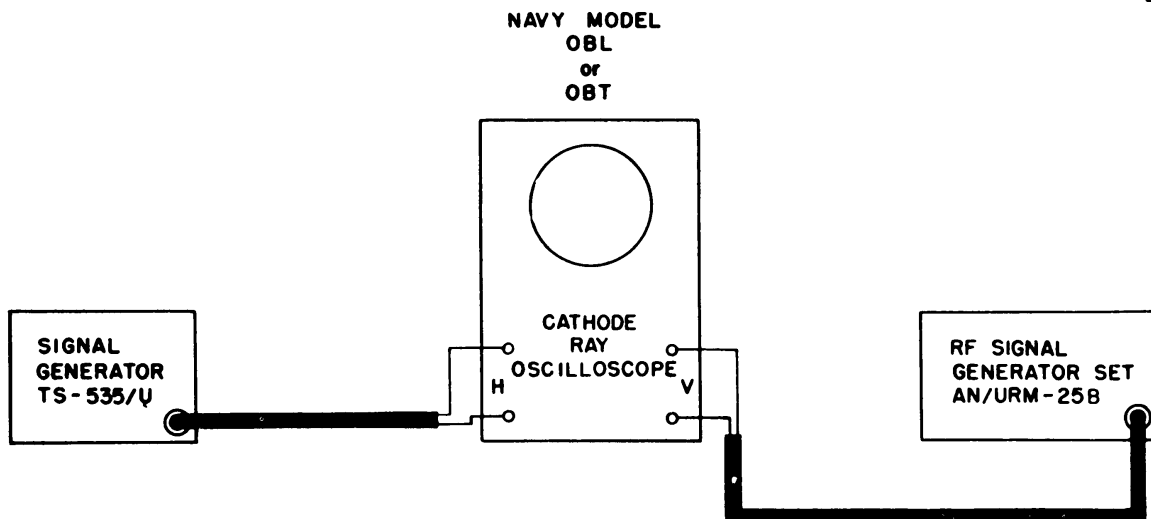

Figure 6-8. Method for Calibrating the RF Signal Generator Set AN/URM-25B at Frequencies Below 100 Kilocycles
(4) In using the heterodyne frequency meters referred to in paragraph 8 of this section, connect the output test cable (W-104) to the heterodyne frequency meter. Place a pair of earphones across the output of the frequency meter. Make the necessary capacitance and inductance adjustments while listening for a zero beat on the earphones.
(5) For calibrating frequency ranges below 100 kc, use the Signal Generator TS-535/U. Feed the output from the RF Signal Generator Set AN/URM-25B and Signal Generator TS-535/U to the horizontal and vertical inputs of an oscilloscope such as Oscilloscope OS-8/U, Navy Models OBL or OBT series (See figure 6-8). Adjust the frequency of the Signal Generator TS-535/U and the frequency of the RF Signal Generator Set AN/URM-25B to the same value. Be sure to calibrate the Signal Generator TS-535/U according to its instruction book before using it as a standard in this procedure.